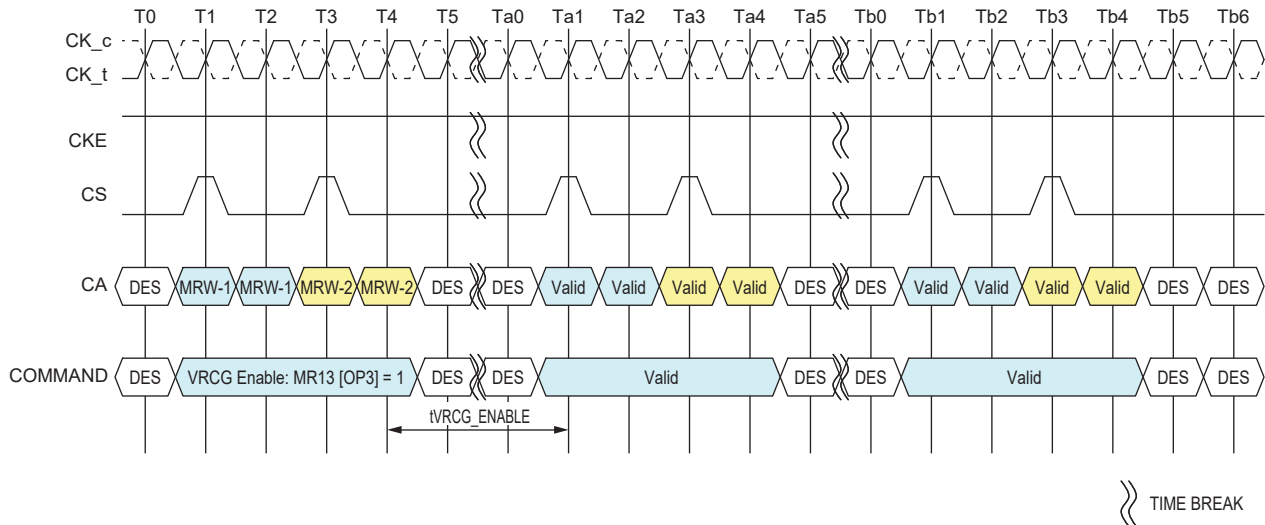

Figure 4.67 — VRCG Enable timing
LPDDR4 SDRAM V_{REF} current generators (VRCG) incorporate a high current mode to reduce the settling time of the internal V_{REF}(DQ) and V_{REF}(CA) levels during training and when changing frequency set points during operation. The high current mode is enabled by setting MR13[OP3] = 1. Only Deselect commands may be issued until t_{VRCG_ENABLE} is satisfied. t_{VRCG_ENABLE} timing is shown in Figure 4.67.